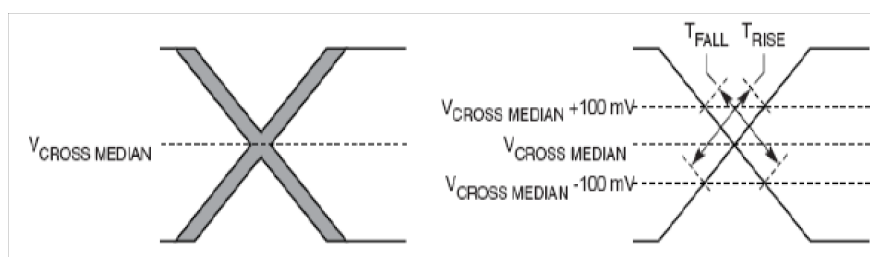

Figure 56. Single-Ended Measurement Points for Rise and Fall Time Matching
5. Matching applies to rising edge for SD_REF_CLK and falling edge rate for $\overline{\text{SD_REF_CLK}}$. It is measured using a 200 mV window centered on the median cross point where SD_REF_CLK rising meets $\overline{\text{SD_REF_CLK}}$ falling. The median cross point is used to calculate the voltage thresholds that the oscilloscope uses for the edge rate calculations. The rise edge rate of SD_REF_CLK must be compared to the fall edge rate of $\overline{\text{SD_REF_CLK}}$, the maximum allowed difference should not exceed 20% of the slowest edge rate. See Figure 56.
Figure 56 shows the single-ended measurement points for rise and fall time matching.